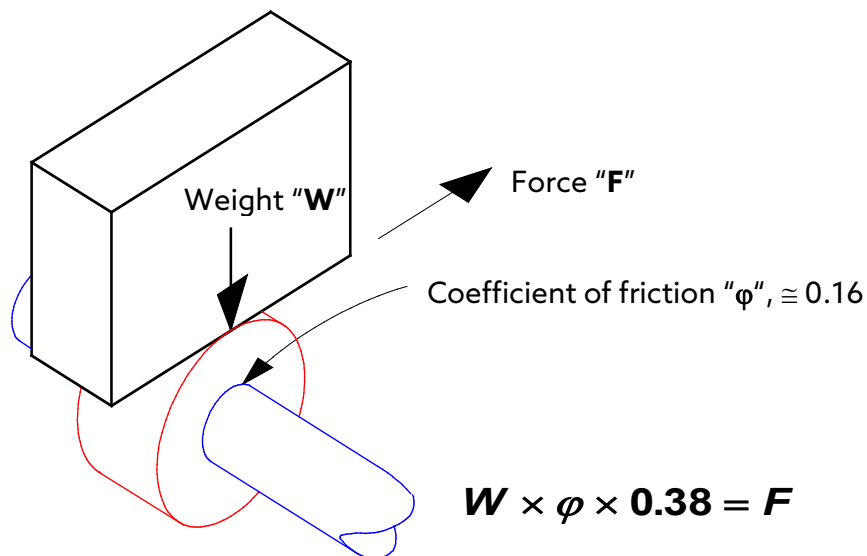

Figure 2
**Figure 2** below shows a package resting on a single plastic roller on a roller shaft.